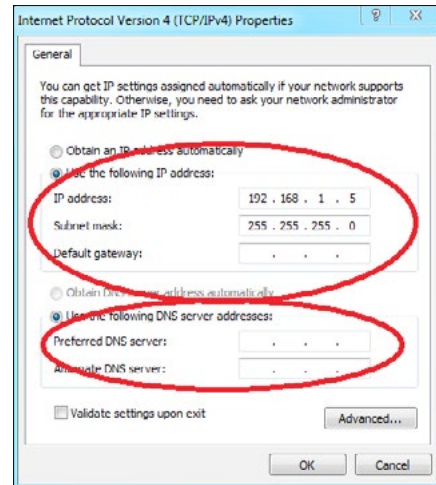

Figure 32: Internet Protocol Properties Window
- Blank out the Default gateway setting (leave the setting blank as shown in **Figure 32**).
- Blank out the Preferred DNS server setting and the Alternate DNS server setting (see **Figure 32**).